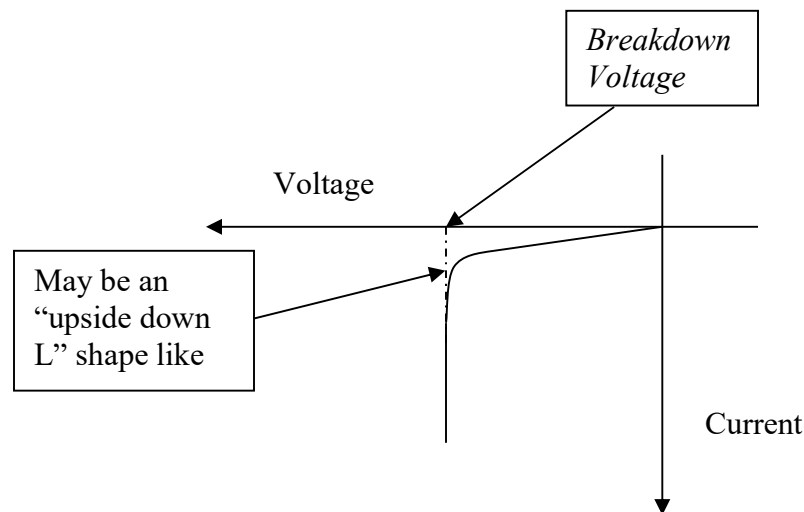

Fig. 3.4 Diode I-V curve (Reverse Bias)
2. Ensure a curve resembling Fig. 3.4 appears on the oscilloscope screen.
8. Determine the value of the **Breakdown Voltage**, which is the point at the X axis as shown in Fig. 3.4 below, in our case there is **no gradual knee but a sharp bend instead**.